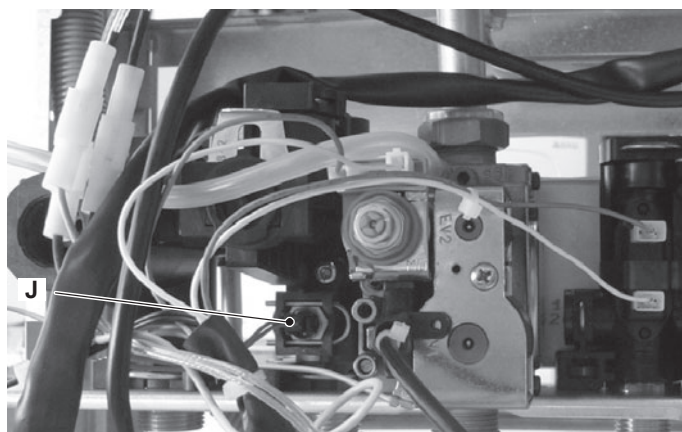

Figure 9.7
- 5 Disconnect d.h.w. temperature probe, respectively J (Figure 9.7).